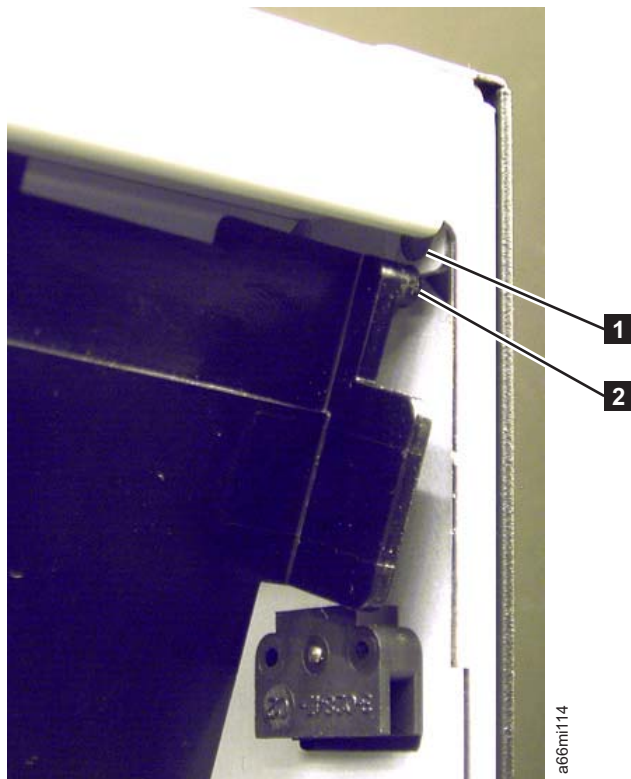

Figure 8-26. I/O Safety Flap Pivot Pin
3. Push the upper right hand corner of the flap to the left to remove the pivot pin (**1** in Figure 8-26) from the pivot hole (**2** in Figure 8-26).